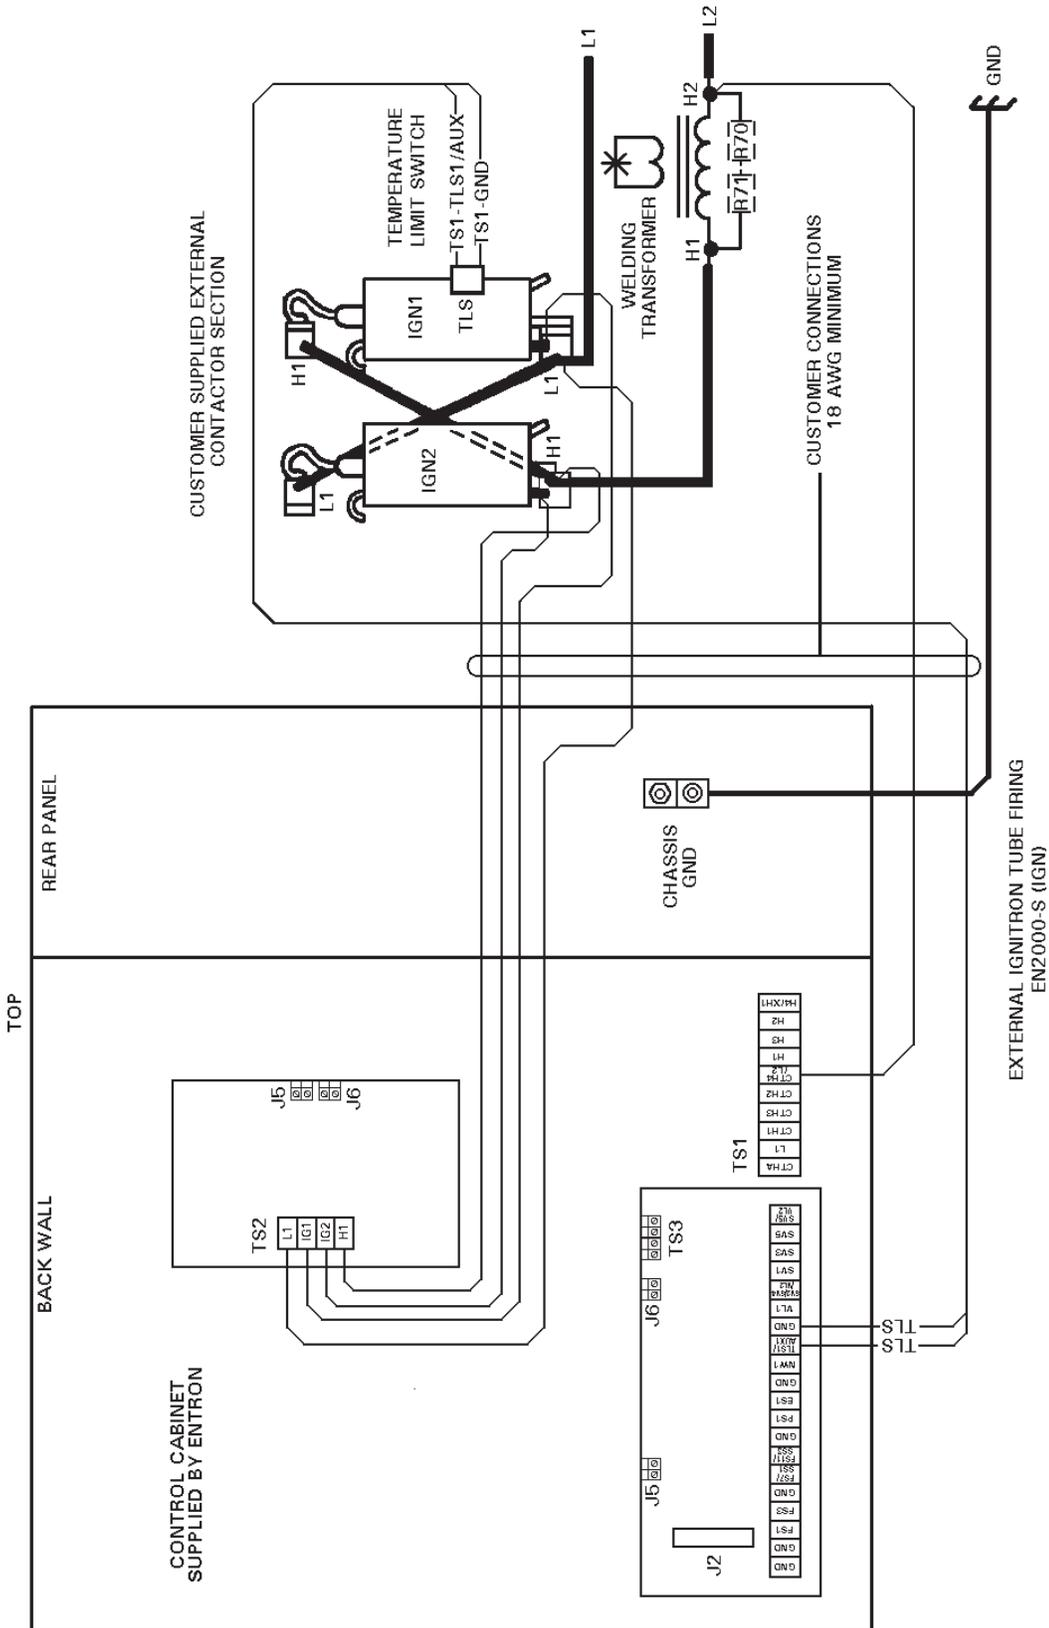

Figure 5-3. External Ignitron Tube Contactor hook-up
– See Figure 5-3 (TS2 is mounted on PCB3)